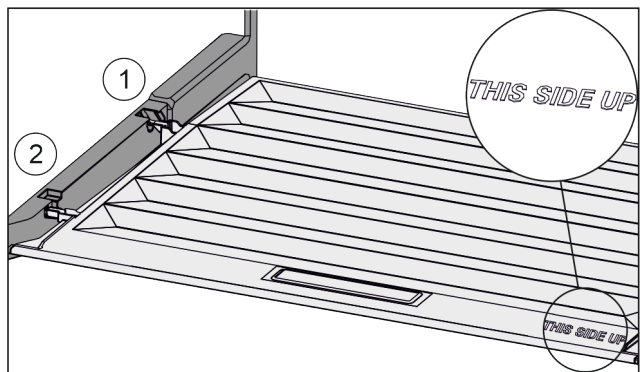

Fig. 90
- ▶ Insert the lip of the cover over the opening of the rear bracket Fig. 90 (1) and click into place Fig. 90 (2).